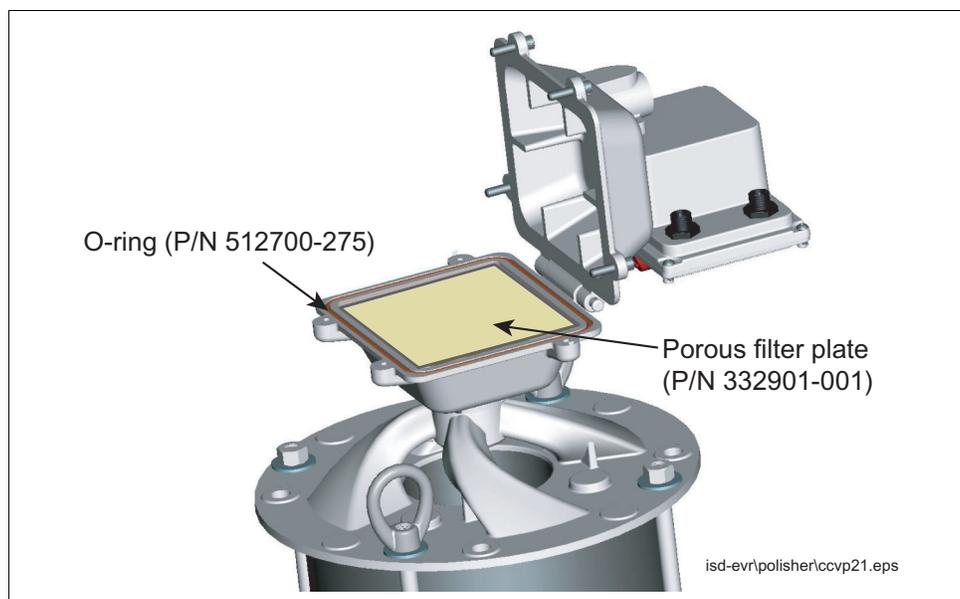

Figure 12. Replacing the valve filter and o-ring
2. Swing the housing top back and remove the filter plate from its seat and the o-ring from its groove in the Vapor Valve Filter housing's lower half (see Figure 12).